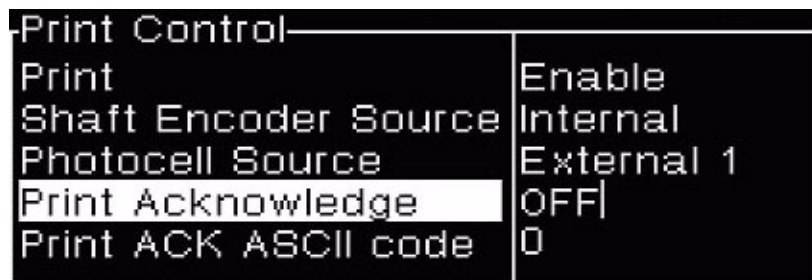

Figure 7-7: Print Control Dialog Box
- 3 Press Enter to open the Print Control dialog box (Figure 7-7).